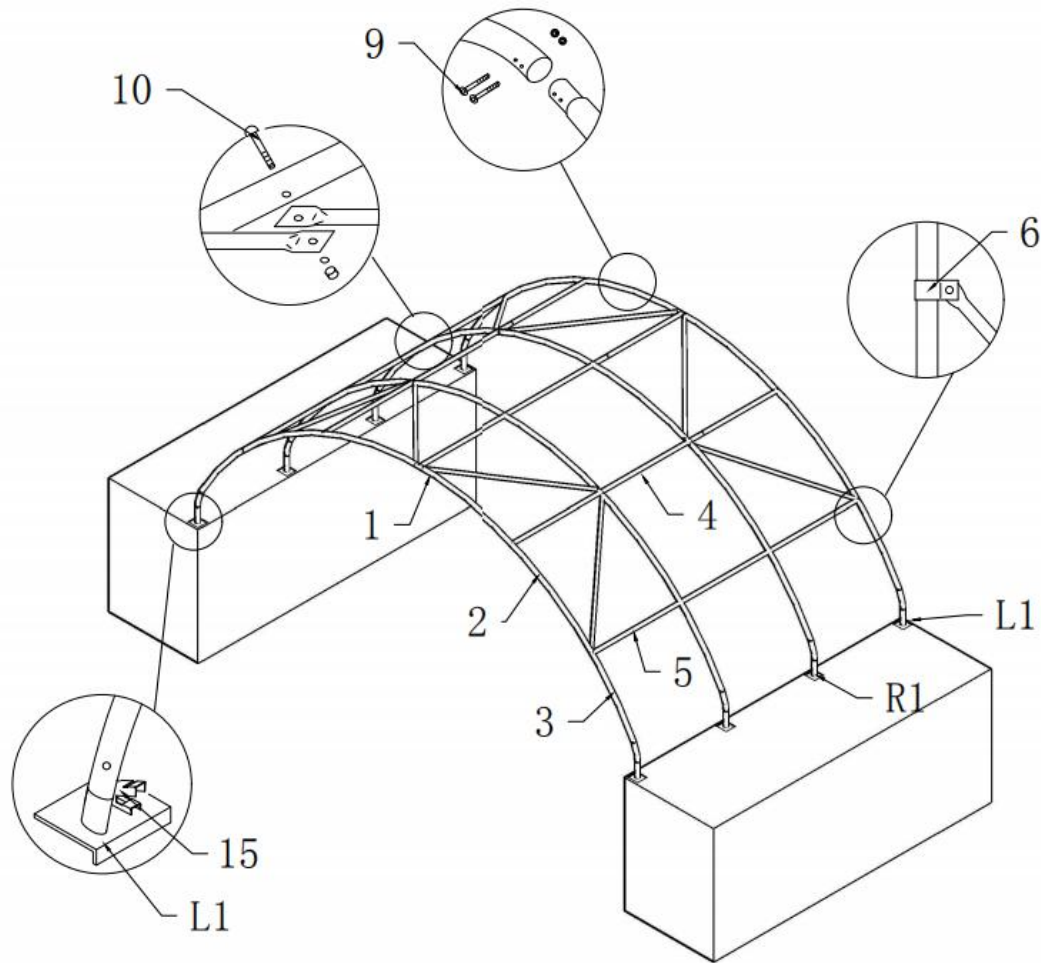

Figure 2
1.As Figure 2 shown find Top bent tube (part code 1), Middle bent tube (part code2) and Sidewall bent tubes (part code3). To connect them by Screw M8x70 (part code 9) , which makes one group of arches. Please NOTE the direction of the screw. DO NOT install the screws on the top of the truss where the fabric will rest.